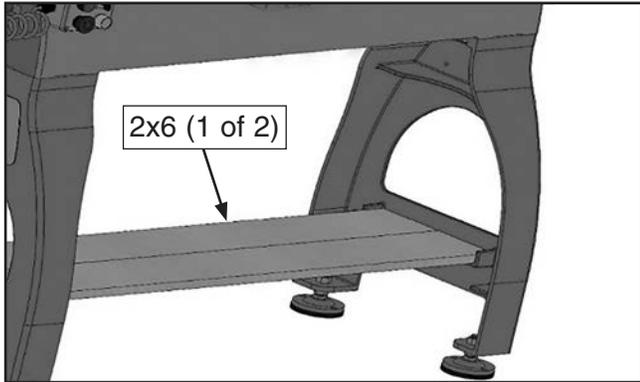

Figure 16. Boards positioned in brackets in shelving option one.
1. Set two 2x6 boards side by side in upper brackets of leg castings (see **Figure 16**).